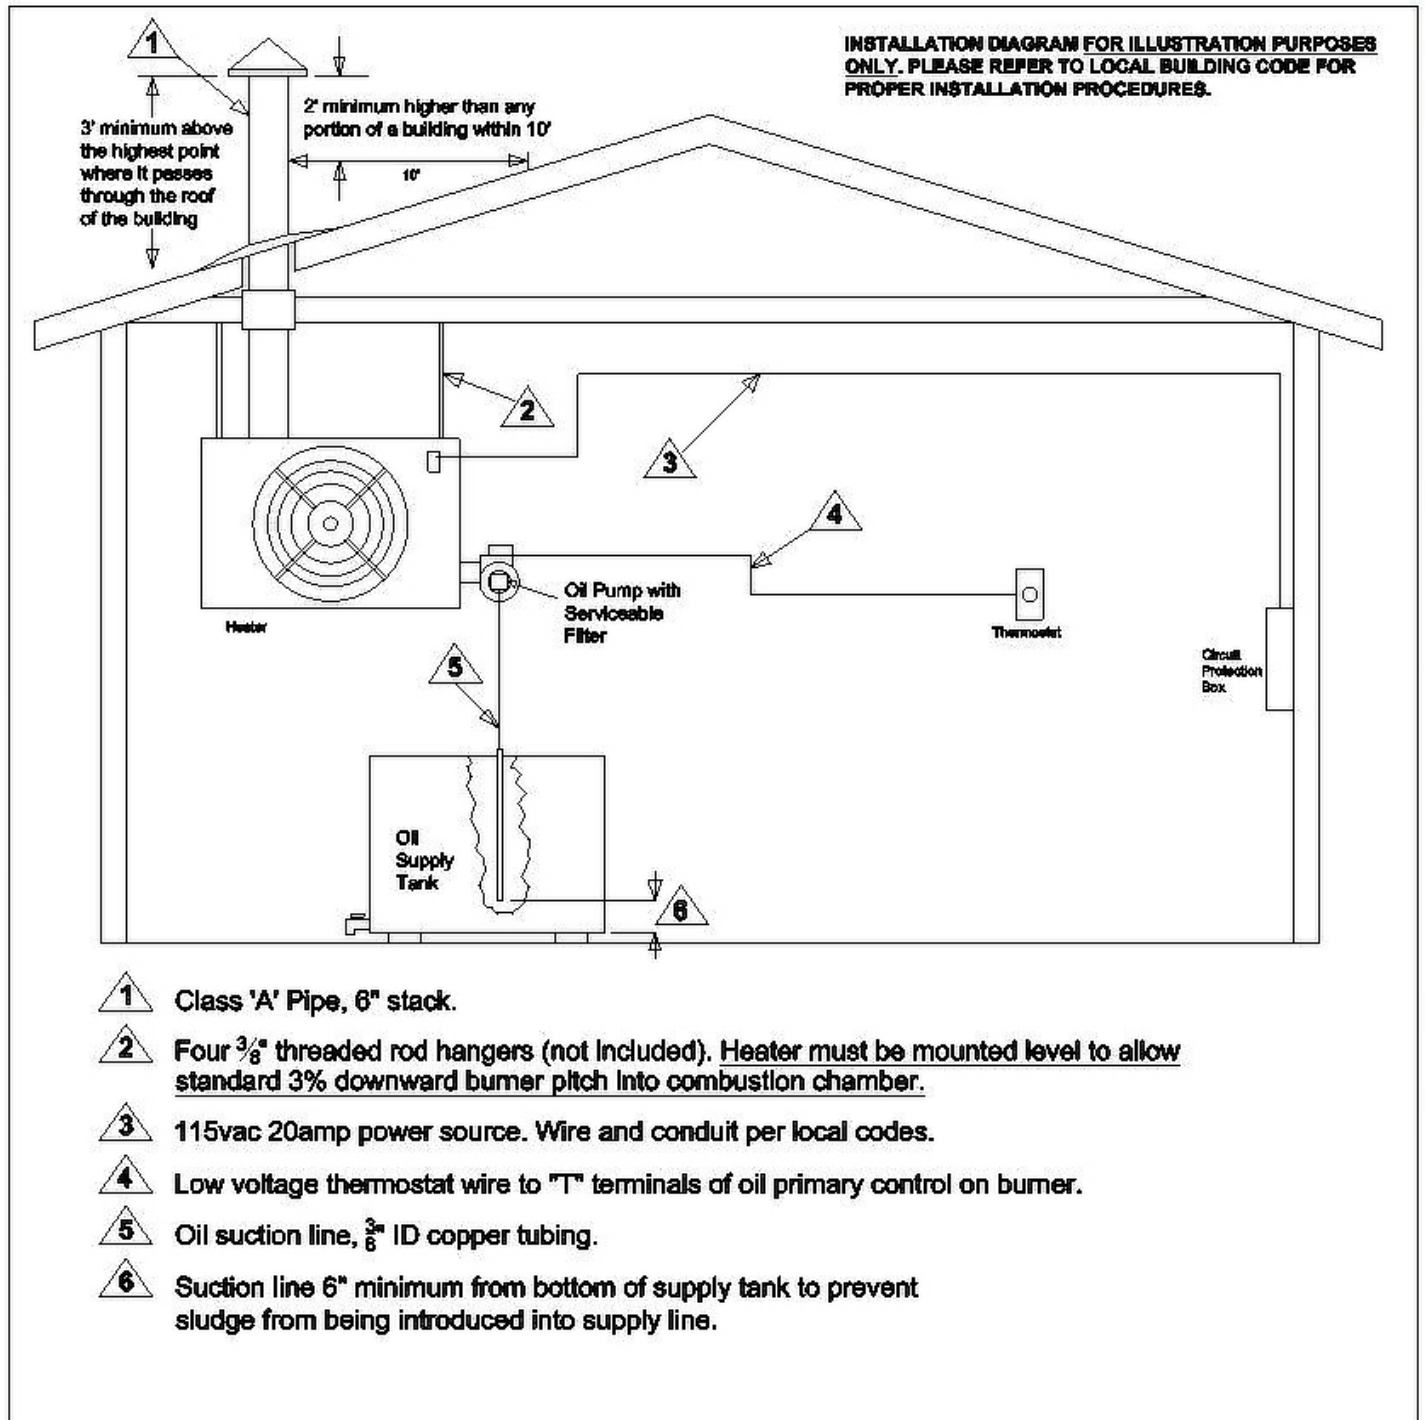
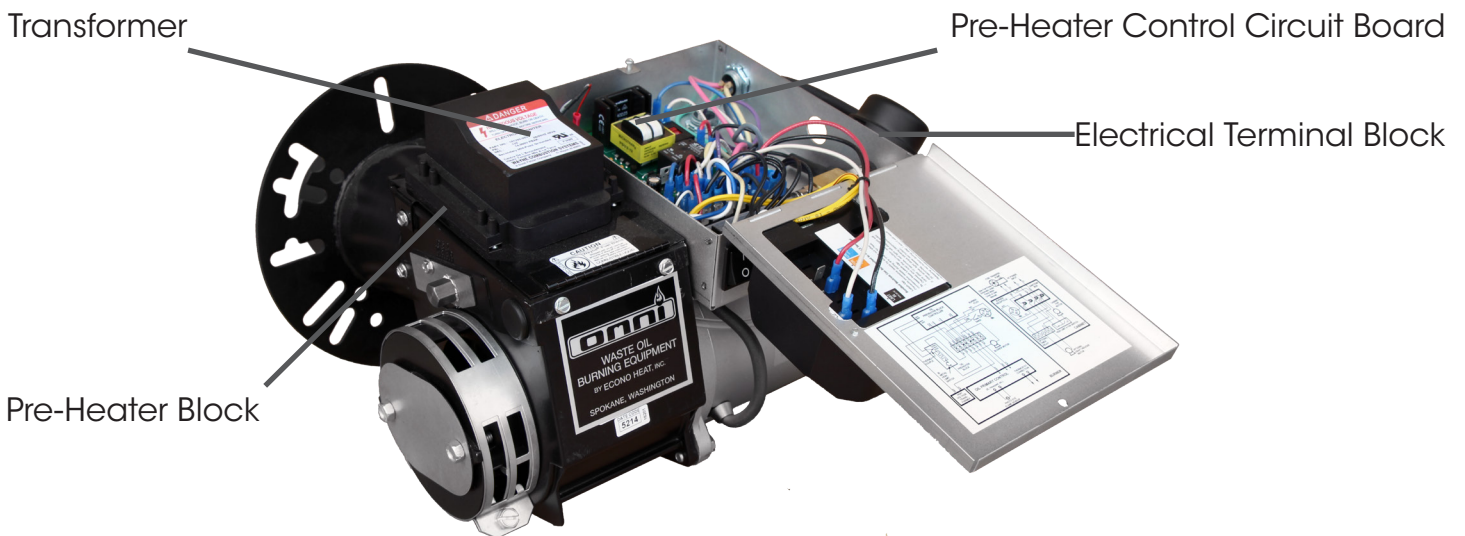

Figure 1 - Installation Diagram
Figure 4 - Oil Burner (Back View Opened)
4. Connect 1/2" or 3/4" oil supply line from the supply tank through the filter (figure 1) to the pump inlet located same side as bleeder port (figure 4).
5. Priming the oil pump: Open bleeder valve one turn until all air is expelled (figure 4). This may need to be done twice to insure all air is removed. **IMPORTANT:** When fully purged and flame is established remove the temporary jumpers on "F" terminals of the Oil Primary to allow safety features of the unit to operate properly.